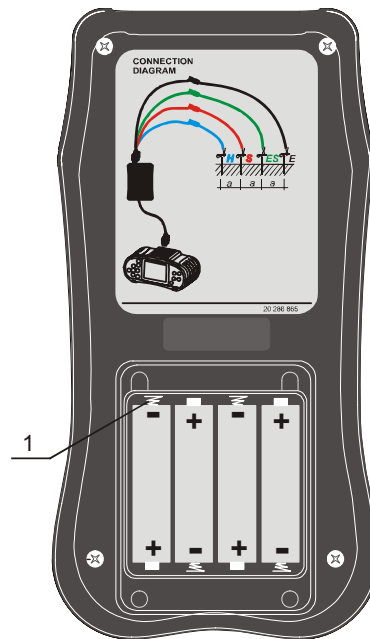

Figure 3.4: Battery compartment
- Insert battery cells correctly in battery holder (*figure 3.4*).